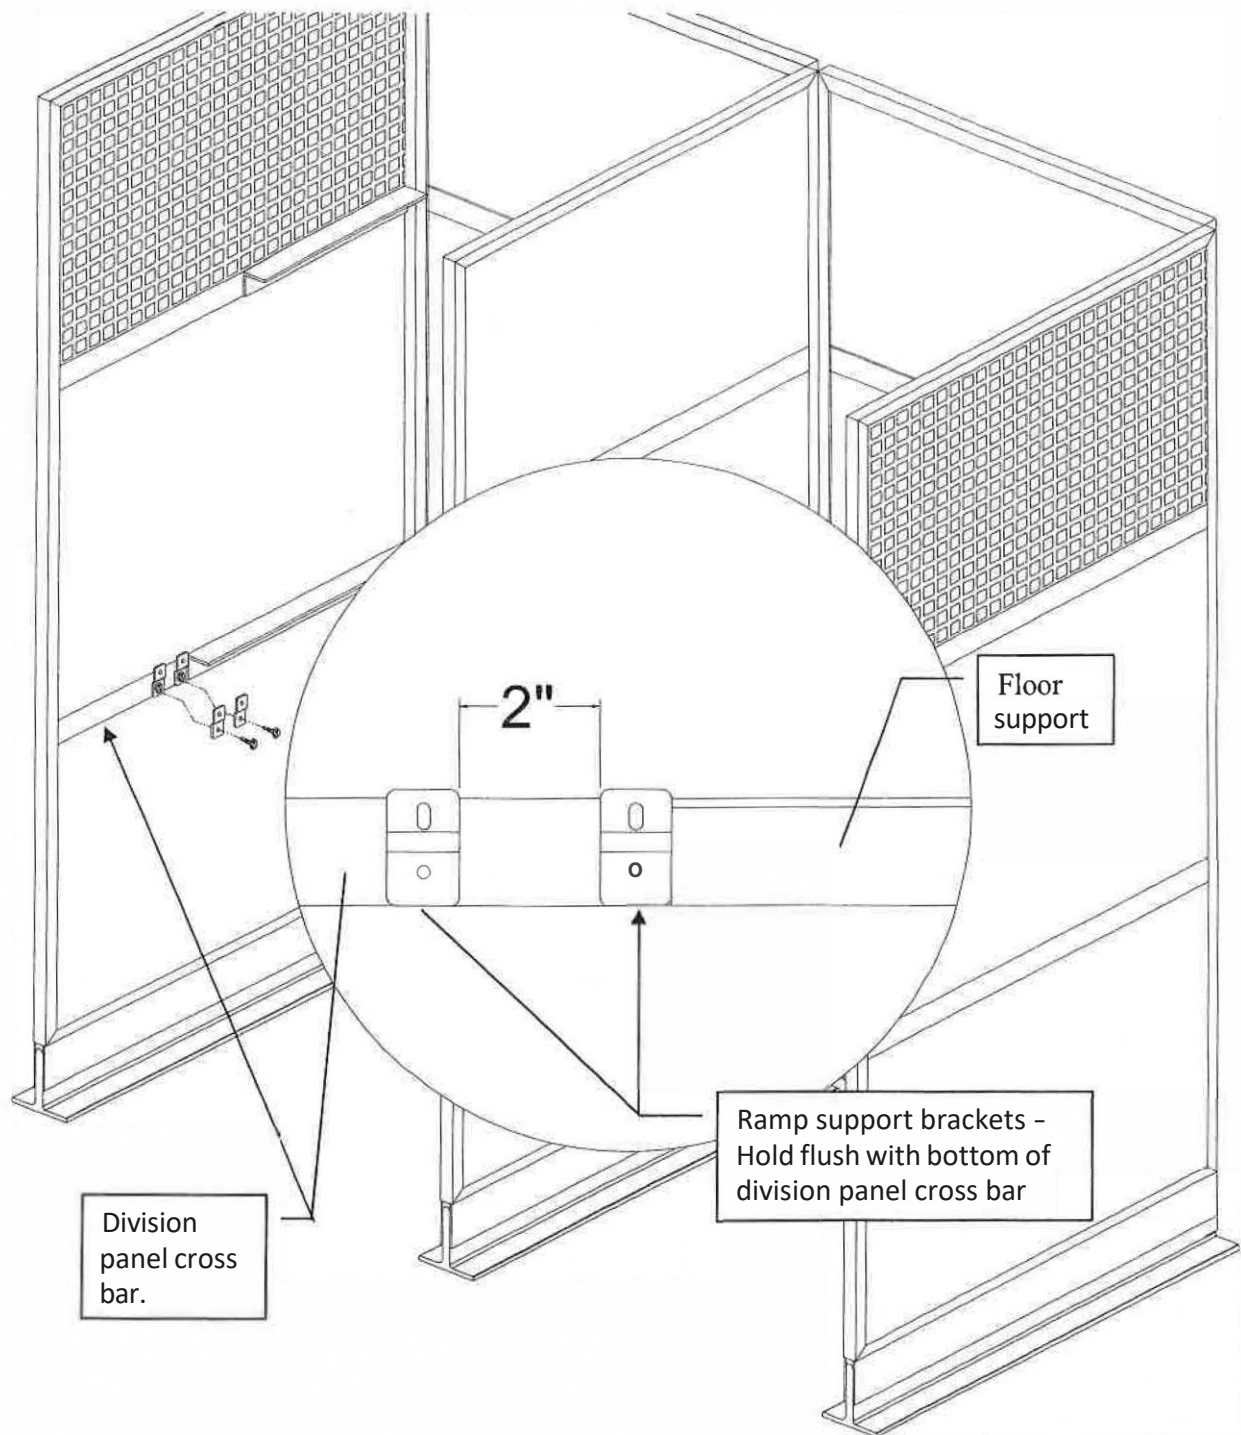

Figure 8
7. Using TEK screws, position and secure two ramp support brackets in front of the appropriate floor support angle. The first bracket should be against the end of the floor support. The second support bracket should be spaced 2 inches apart from the first bracket. See Figure 8.
8. On the opposite side of the same run and one level higher position and secure the two ramp support brackets in front of the floor support. The first bracket should be against the end of the floor support. The second support bracket should be spaced 2 inches apart from the first bracket. See detail view of figure 8.